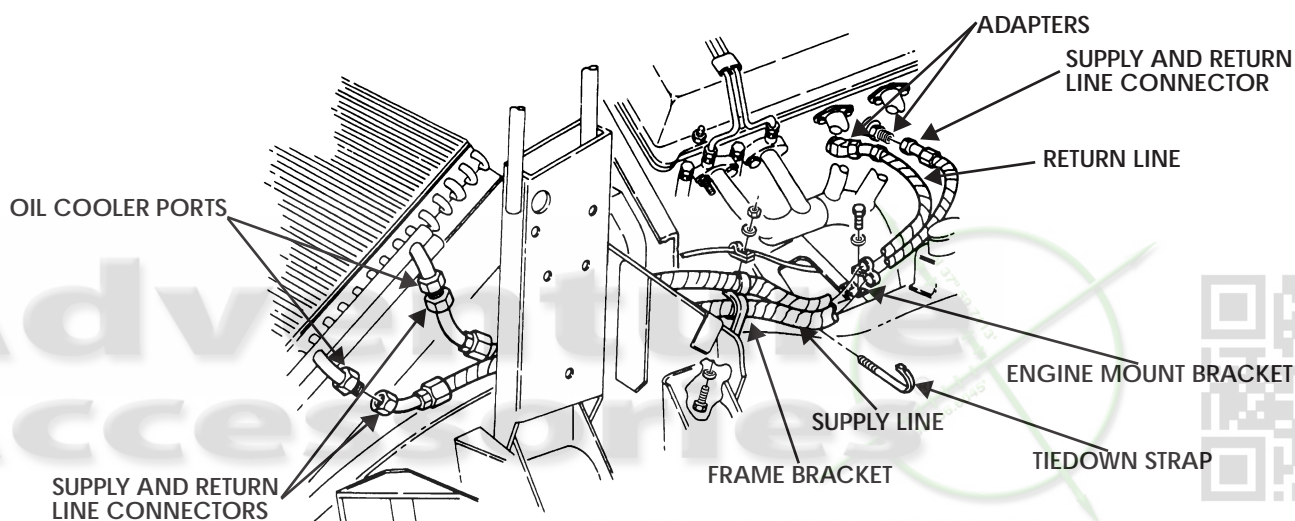

Figure 1-42: Engine Oil Cooler Supply and Return Lines
3. Disconnect supply and return line connectors from adapters. Drain engine oil (Figure 1-42).
Inspect adapters for damaged threads or cracks (Figure 1-42).
1. Position supply and return lines in approximate mounting location (Figure 1-42).